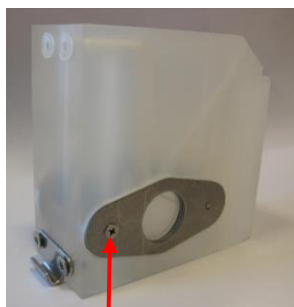

Figure 34
5. Remove both the sight glass holders (see figure 34).
11. Fix the sight glasses in place with the sight glass holders (see figure 34).